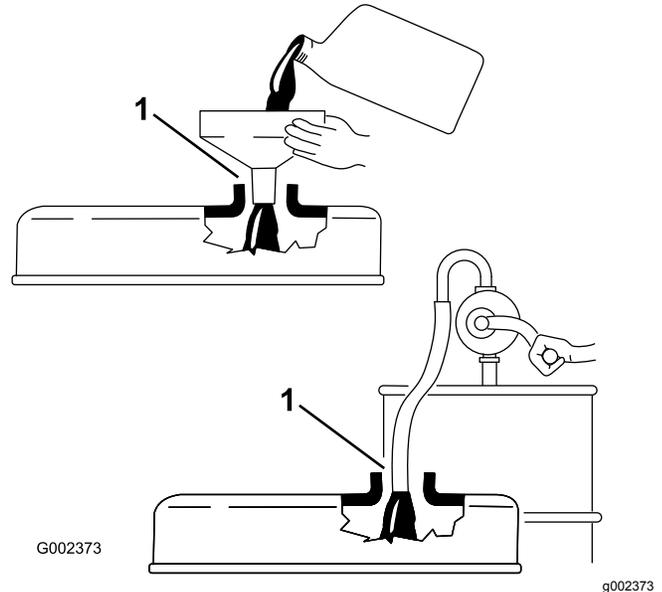

Figure 27
**Important:** Make sure that the dipstick is removed while filling the engine with oil. When adding engine oil or filling oil, there **must be** clearance between the oil fill device and the oil fill hole in the valve cover as shown in Figure 27. This clearance is necessary to permit venting when filling, which prevents oil from overrunning into breather.